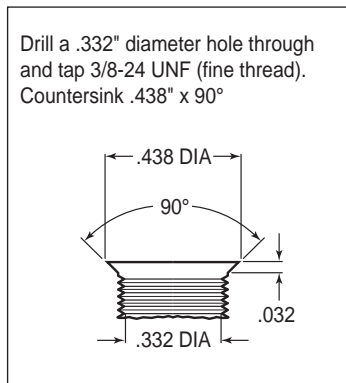

Figure 2. Drill and Tap Detail
Using the caliper mounting bracket as a template (refer to Figure 1 as necessary), locate and verify the three original holes on the spindle that need to be modified. Drill a .332" diameter hole through all three holes, then tap 3/8-24 UNF (fine thread). Countersink the holes to .438" diameter x 90°, as shown in Figure 2.
Assembly Instructions (numbers in parenthesis refer to the parts list, and Figure 2 on the preceding pages): **CAUTION:** All mounting bolts must fully engage clinch nuts. Be sure to check that all bolts are either flush or protruding through flanged side of clinch nut after shimming, Figure 5.
For Drum Spindle: Align bracket, using the four "A" holes, to the face of the spindle and attach using bolts (2A and 5), washers (3), and lock nuts (4), as shown in Figure 2. Ensure that the flanged heads of the clinch nuts in the bracket are facing outboard, Photo 1. Torque nuts to 30 ft-lb.
For Disc Spindle: Align bracket, using the three “B” holes, to the face of the spindle and attach using bolts (2B) and washers (3), as shown in Figure 2. Finger tighten. Ensure that the flanged heads of the clinch nuts in the bracket are facing outboard, photo 2. Remove bolts one at a time, apply red *Loctite*® 271 to threads, and torque to 40 ft-lb.
- Install the grease seal (9) by pressing into the backside of the hub (7), flush with the end of the hub, Photo 4.
- Orient the rotor (11) and the rotor adapter (10) as shown in Figure 2 and Photo 5. Attach the rotor to the adapter using bolts (12). Using an alternating sequence, apply red *Loctite*® 271 to the threads, and torque to 25 ft-lb.
- Mount the adapter/rotor assembly (10/11) to the hub (7) using bolts (13), as shown in Figure 2 and Photo 6. Using an alternating sequence, apply red *Loctite*® 271 to the threads, and torque to 55 ft-lb.
- Pack the small outer bearing cone (14) with high temperature disc brake bearing grease and install into hub (7). Slide the hub/rotor assembly onto the spindle. Secure using spindle washer (15) and OEM spindle nut, Photo 7. Adjust bearings per OEM specifications. Install saved OEM nut lock (if any) and a new cotter pin (not included).
- Screw dust cap (17) into hub (7), Photo 8. Friction created by the o-ring (16) on the dust cap keeps it from unscrewing. **NOTE:** The O.D. of the existing OEM spindle washer may be larger than the I.D. of the dust cap not allowing it to seat against the hub face. Therefore, use the spindle washer (15) supplied with the kit instead of the OEM washer.
- NOTE:** Please reference the caution statement at the beginning of the assembly instructions. Mount the caliper (18) onto the caliper mounting bracket (1) using bolts (20) and washers (19), as shown in Figure 2. Initially place two .035” thick shims (21) on each bolt between the caliper and the bracket, Photo 9. Temporarily tighten the mounting bolts and view the rotor (11) through the top opening of the caliper. The rotor should be centered in the caliper, Photo 10. If not, adjust by adding or subtracting shims between the bracket and the caliper. Always use the same amount of shims on each of the two mounting bolts. **NOTE:** The end of each bolt must be flush with or slightly protruding from the head of the clinch nut, as shown in Figure 5. If necessary place spare shims between washer (19) and caliper